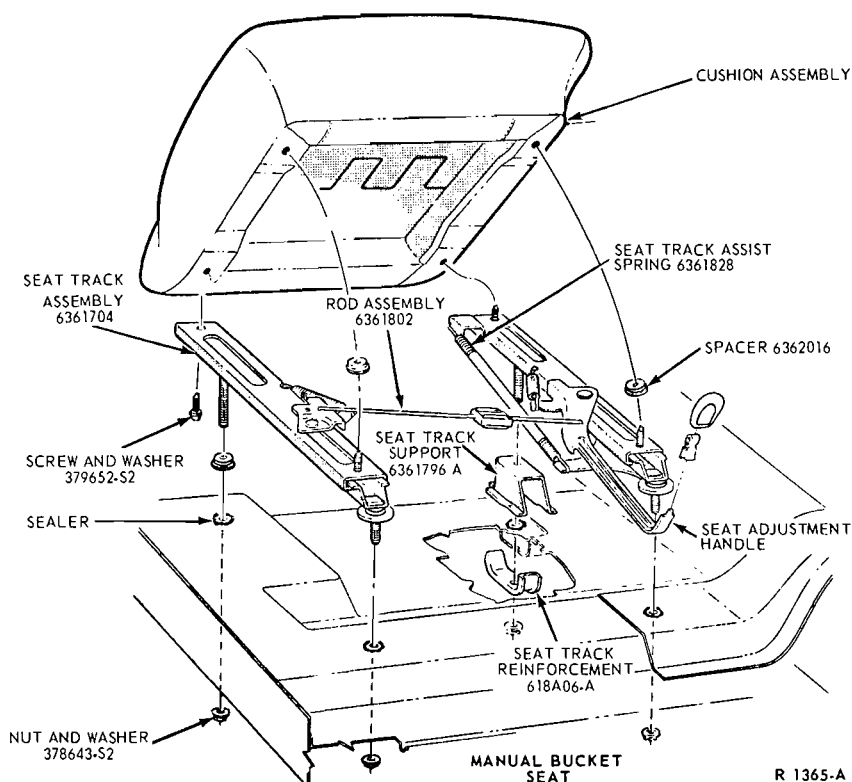

FIG. 9—Bucket Seat Installation—Falcon, Fairlane, Mercury Intermediate
3. Remove the screws which retain the seat track assembly to the seat cushion and remove the seat track assembly (Figs. 9 and 10).